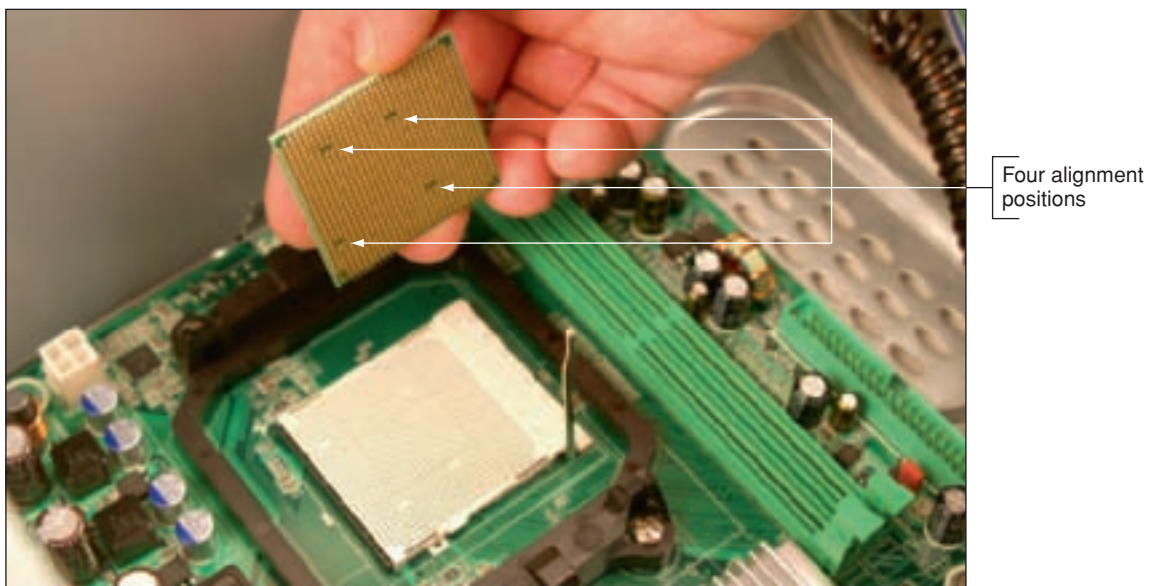

Figure 6-44 Orient the four empty positions on the bottom of the processor with those in the socket
3. Holding the processor very carefully so you don't touch the bottom, orient the four empty positions on the bottom with the four empty positions in the socket (see Figure 6-44). Carefully lower the processor into the socket. Don't allow it to tilt or